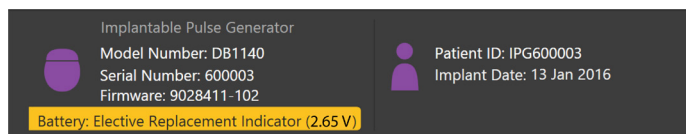

Figure 15. ERI Message displayed on Connect Tab
You will not be able to connect to a non-rechargeable (PC) Stimulator that is nearing the end of its battery life. The CP will display the Stimulator with an ERI message and the Stimulator battery voltage as seen in Figure 15 on the **Connect Tab**. No changes can be made to the Stimulator settings once it is in ERI.